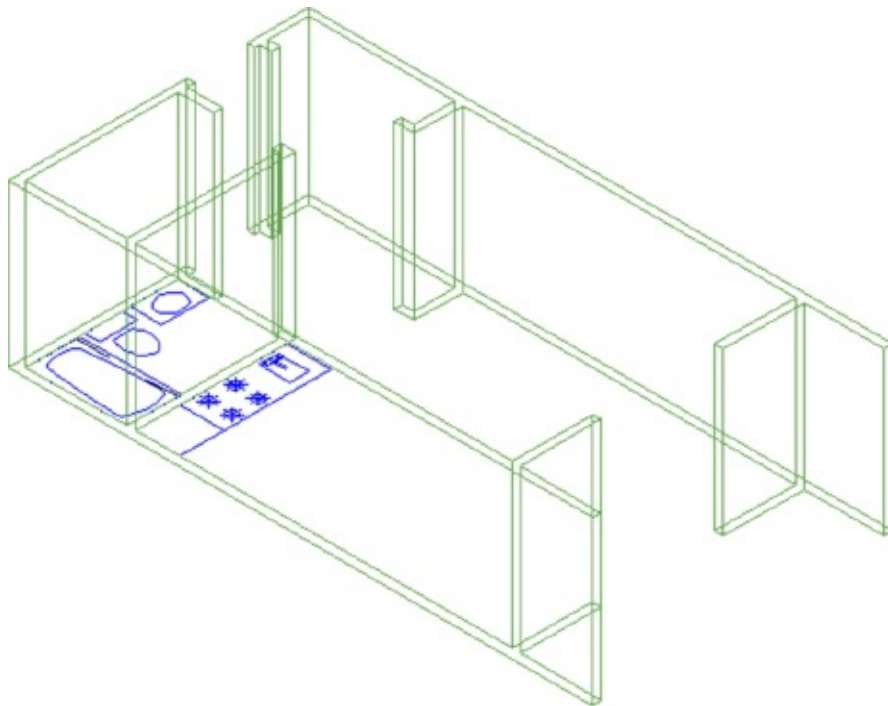

FIGURE 20.23 The extruded walls
5. At the Specify height of extrusion or [Direction/Path/Taper angle/Expression] <-0'-3">: prompt, place the cursor near the top of the drawing area and enter 8' ↵. Metric users should enter 224 ↵. The walls extrude to the height you entered, as shown in Figure 20.23.